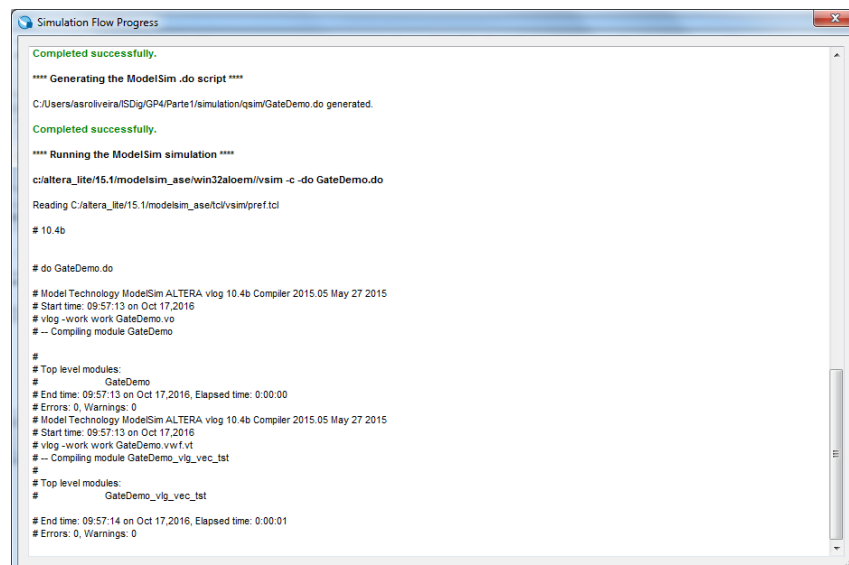
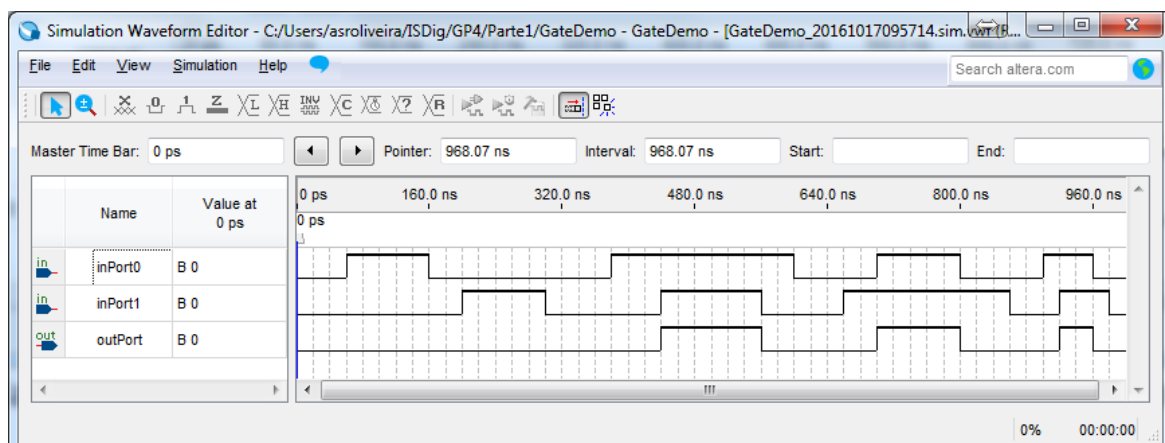

Figure 21 - Circuit simulation compilation and execution window with the specified input vectors.
Figure 22 - Simulator window with output signal waveform as a function of the specified input vectors and circuit behaviour.
14. Run the simulation through the “Simulation→Run Functional Simulation” menu, which should open a window similar to Figure 21. After the simulation you should get the value of the logic gate output corresponding to the inputs you specified (Figure 22).